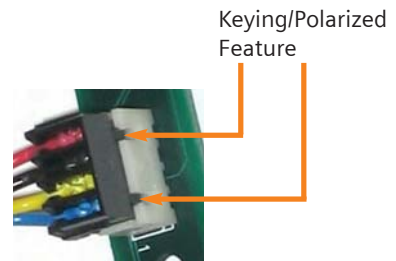

Figure 6.10
8. If the data rail is already installed, install the CPOD data wire connector into the respective data rail connector as shown in figure 6.10. CPOD data wire connector is equipped with keying/polarized feature, which means that it can only be installed on one orientation.